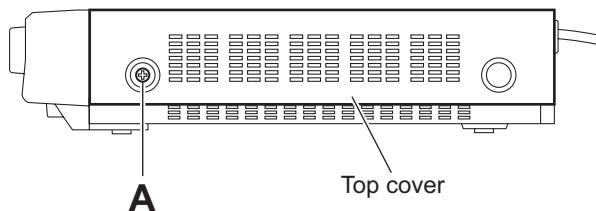

Fig.1
(See Figs. 1 and 2)
- (1) From the both sides of the main body, remove the two screws **A** attaching the top cover. (See Fig.1)